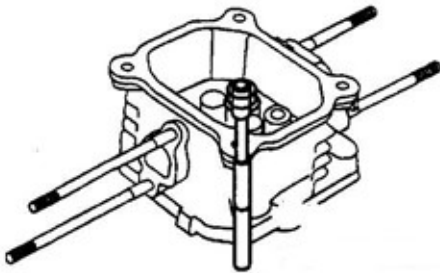

Figure 4-20: Valve Guide Driver Shown
6. See Figure 4-20. for valve seat width examples.